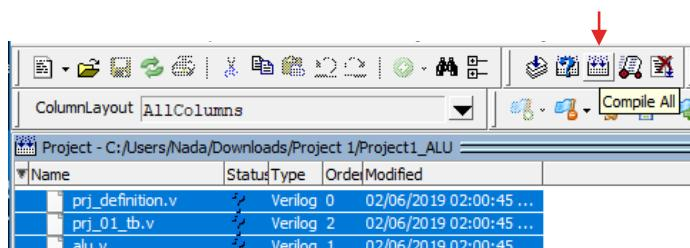
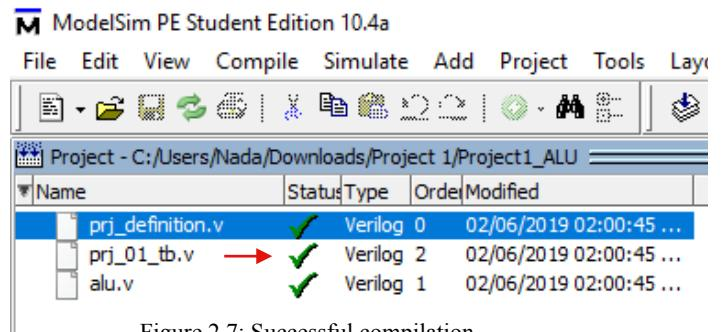

Figure 2.6: Compile All
Figure 2.7: Successful compilation
- 4) All 3 files are now added to the project and can be visible when in the ‘project’ tab. Click on the project tab (situated next to the ‘library’ tab, then click on the ‘compile all’ button (Figure 2.6) to make sure the files and the tool are working properly. A successful compilation will result in a green ‘check’ mark on each file as shown in Figure 2.7.